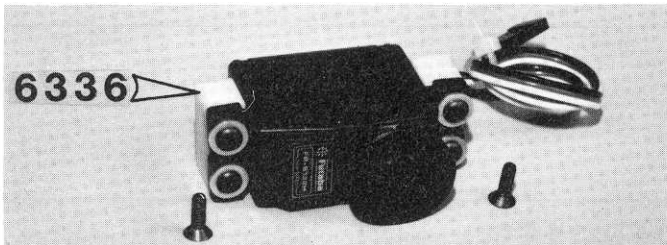
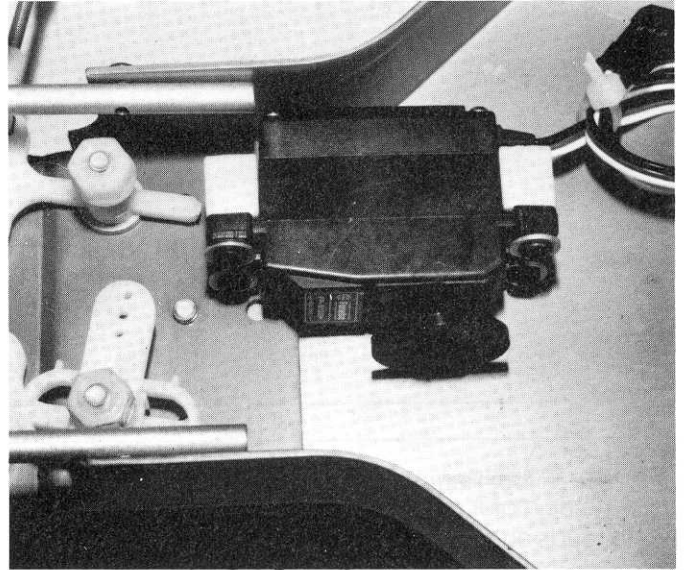
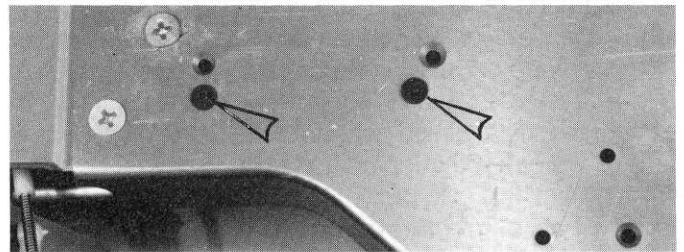

Fig. 122
Fig. 123
Fig. 123a
□ **Fig. 122** In Bag #6-6, take out 2 of the #6336 plastic servo mounts. You'll have to drill the mounts for your particular servos. If you have S32 servos, line up your servo with the mounts, so that there will be about 1/16" (1.6mm) clearance between the servo and the chassis plate and mark the hole locations on the mounts. Drill two #43 (2.3mm) holes in each mount on the side away from the chassis mounting hole, which will be on the bottom of the mount. You'll notice that the chassis has 2 sets of servo mounting holes. A short set and a long set. With 2 different sets and by rotating the servo mounts 90 deg, you will be able to mount most servos. Put the rubber grommets on the servo and attach the servo to the mounts with 4 but-ton-head Allen screws and washers, as shown.
□ **Figs. 123 & 123a** Install the servo to chassis with the 2 flathead Allen screws shown in fig. 122. You'll have to install 2 washers between the rear mount and chassis for proper alignment. Fig. 123a shows the proper holes to use with small servos.